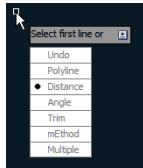

FIGURE 2.26
- Press the down-arrow key three more times, and press Enter to select the Distance option in the Dynamic Input display (see Figure 2.26). Type **1'** (or **30** for metric), and press Enter twice to input equal first and second distances, which are 1' (or 30 for metric) each.